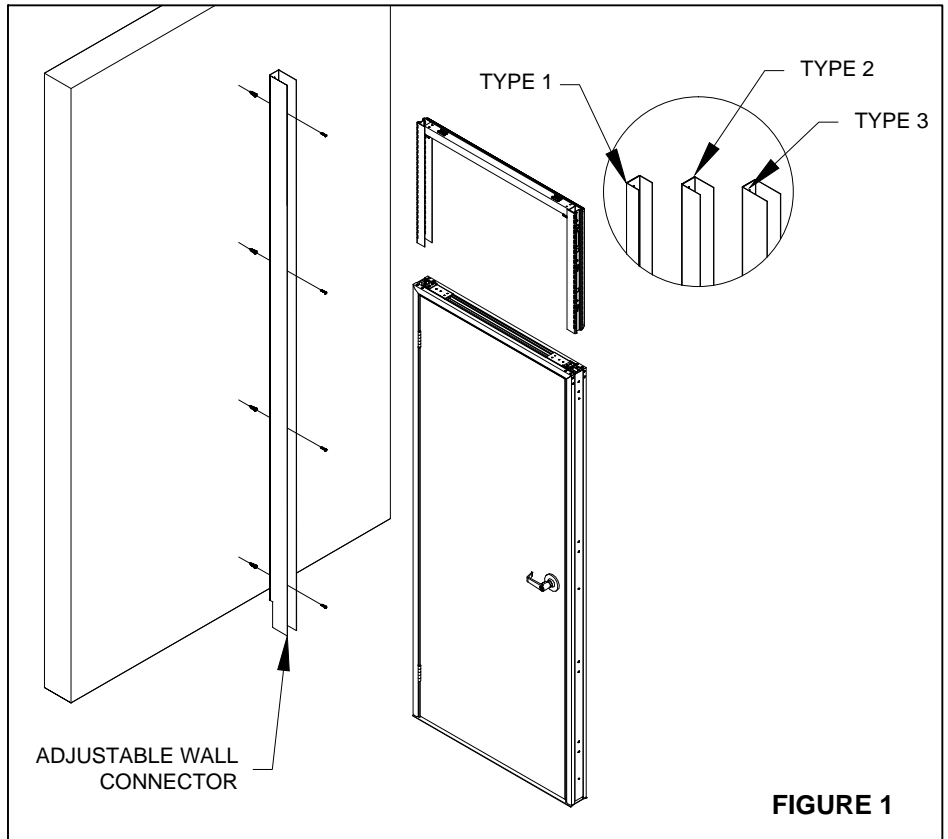

FIGURE 1
7. Place the adjustable wall connector back onto the wall, line up the holes on both wall and connector, then place the #10 screws provided through holes and tighten, using #2 Robertson long bit, (Figure 1).